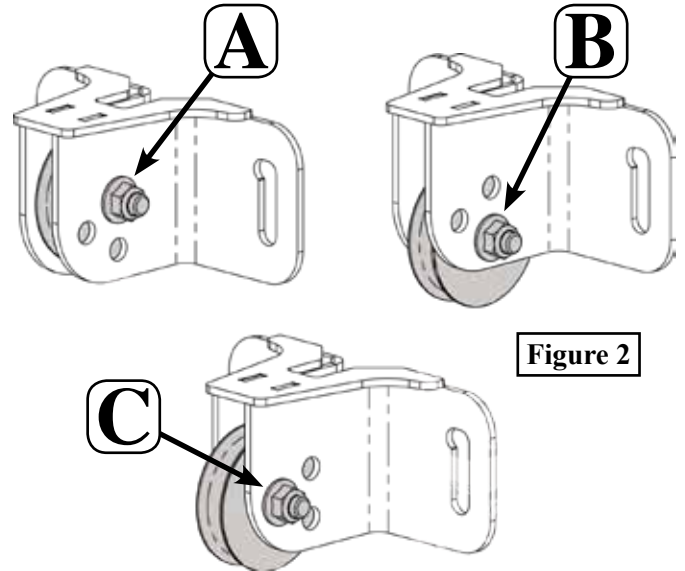

Figure 2
2. Set plow mount (1) in place and fasten to front bumper using bolts (3.2) as shown in **Figure 2**.
3. Using plow mount (1) as a template, drill through skid plate on driver side of the machine using a 13/32" drill bit as shown in **Figure 2**.
4. Place bolt plates (2) above frame rail on both passenger side and driver side of the machine and secure rear of plow mount (1) to bolt plate (2) using bolts (3.1) as shown in **Figure 2 & 3**.
1. Remove bolts (A) on front bumper plastic as shown in Figure 2. Remove plastic cover.
"Figure 2" Front Plastic Removal
3. Hold plow mount (1) into place and *loosely* reinstall bolts (A) by going through the plow mount and then back into the bumper. See **Figure 2**.
2. Hold the Plow Mount (1) in place over the front, lower corner of the frame as shown in **Figure 2**, and install the larger, front U-Bolts (3.1). Loosely secure with Nuts (3.3).
3. With the Plow Mount (1) held in place, use the plow mount as a template to mark the rear, inner u-bolt holes on the machine's skid plate.
4. Remove the Plow Mount (1) so the rear holes can be drilled. Use at least a 7/16" drill bit. (Larger holes will not effect functionality, and can make installation easier) See **Figure 2**.
5. Once holes are drilled through the skid plate, install U-Bolts (3.1 & 3.2) around the frame and through the Plow Mount (1). Secure with Nuts (3.3 & 3.4) as shown in **Figures 2 & 3**.